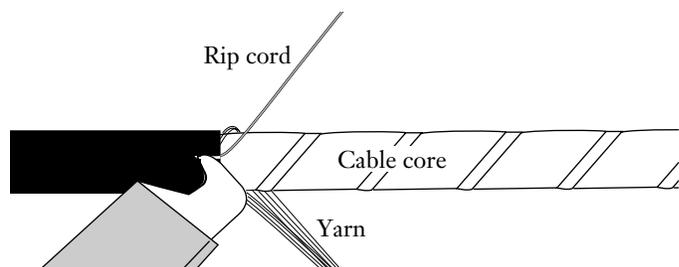

Figure 6
5.4 Locate and separate the orange rip cord from the yarn surrounding the cable core. Cut a starting notch in the cable sheath as shown in Figure 6.